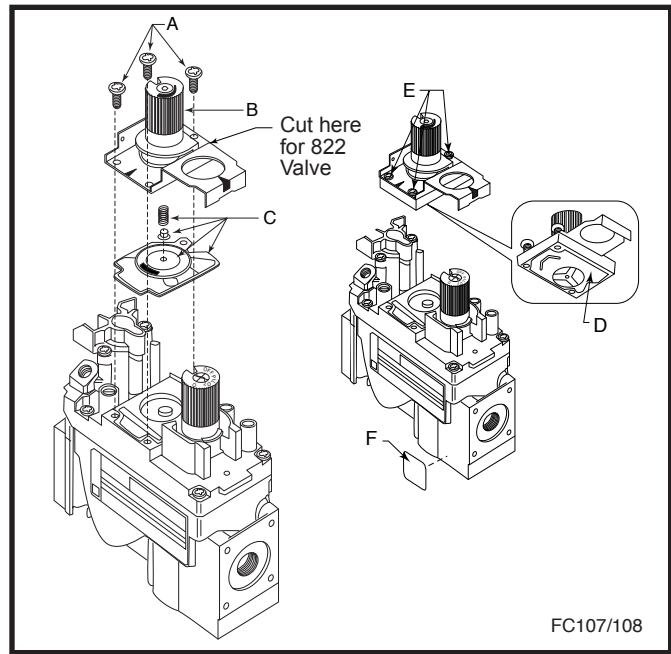

Fig. 60 Remove mounting screws, pressure regulator tower and spring and diaphragm assembly. Replace regulator.
1. Using the TORX T20 bit, remove and discard the three (3) pressure regulator mounting screws (A), pressure regulator tower (B) and the spring and diaphragm assembly (C). (Fig. 60) **NOTE:** If the conversion is for the 822 electronic valve, cut the metal tab off the regulator as shown in Figure 60.
2. Insure the rubber gasket (D) is properly positioned and install the new HI/LO pressure regulator assembly to the valve using the new screws (E) supplied with the kit. Tighten the screws securely. (Ref. torque = 25 in/lb) (Fig. 60)
3. Install the enclosed conversion label (F) to the valve body where it can easily be seen. (Fig. 60)